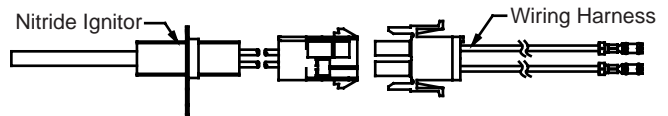

Figure 2. Ignitor/Wiring Harness Connection
- 8) Connect the wiring harness and the ignitor wiring connectors as shown in Figure 2. Connect the other end of the wiring harness to the module (terminals IGN1 & IGN2).